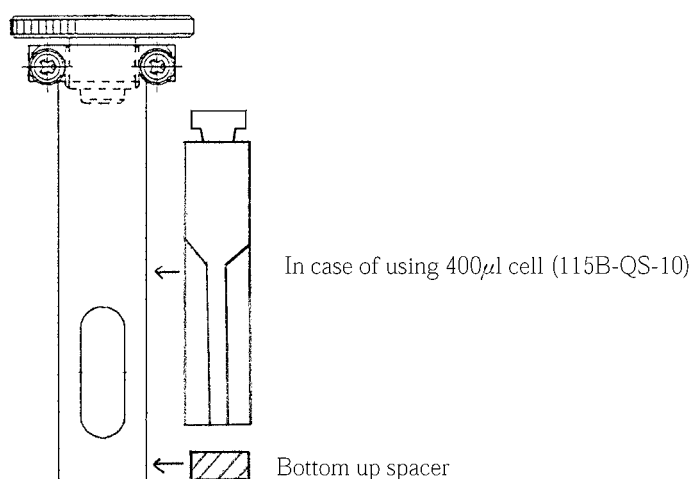

Fig.5.1 Fix cell with Knurled screw
- 4) Tighten a knurled screw for fixing the cell cover offered as an accessory, and securely fix the cell cover. (Refer to Fig.5.1)
- 5) If the optical axis of the cell is low (such as in the 115B-QS-10 whose capacity is 400 μ L manufactured by HELLMA), use a bottom-up spacer offered as an accessory. Insert the spacer into a flat spring offered as an accessory, attach the cell on the plate spring, then attach them to the cell holder. (Refer to Fig.5.1)